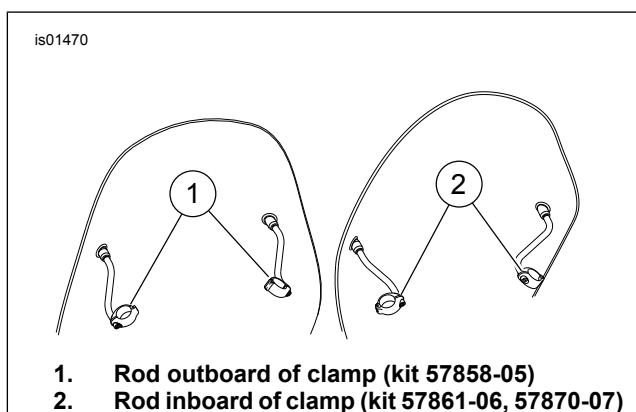

Figure 4. Properly Assembled Upper Windshield Mounts
7. Place one of the handlebar clamps (5) onto one side of the handlebar, in the straight section between the riser and the handlebar controls, oriented as shown in Figure 4.